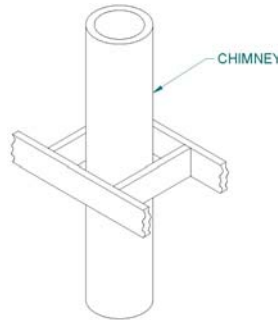

Figure 32
5. From below, install a firestop supplied by the chimney manufacturer (see Figure 32).